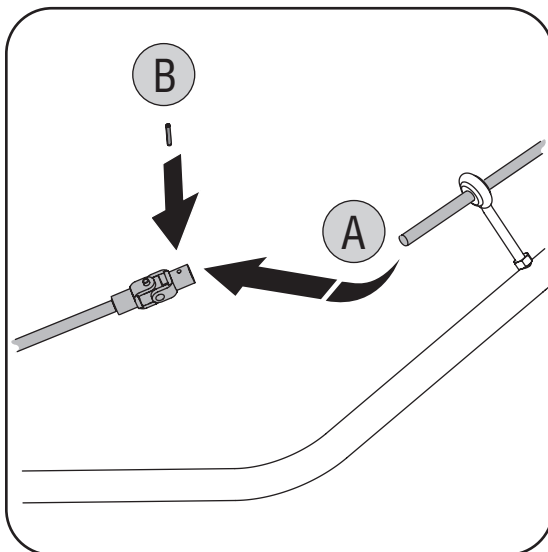

Figure 6-2
1. Secure the upper chute crank rod to the joint block (A) on the lower chute crank rod with the cotter pin (B) provided. See Figure 6-2.